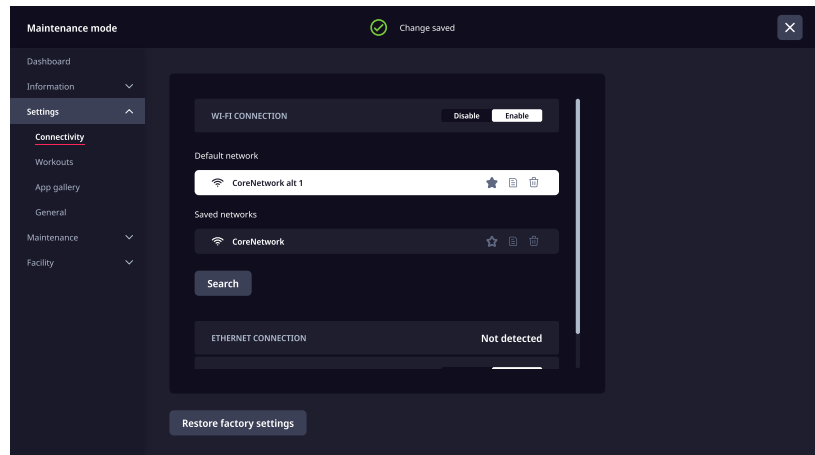

Fig. 61 Shown with multiple networks
6. For multiple connected networks (Fig. 61), tap  to set Default network. Every time the console reconnects, it will prioritize this network.